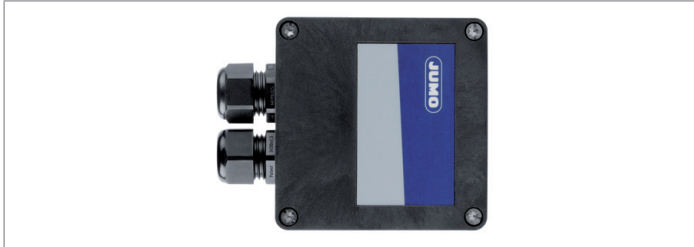

Figure 13: Cover position of type 406010
- Set the enclosure cover in place again as shown in Figure 13.